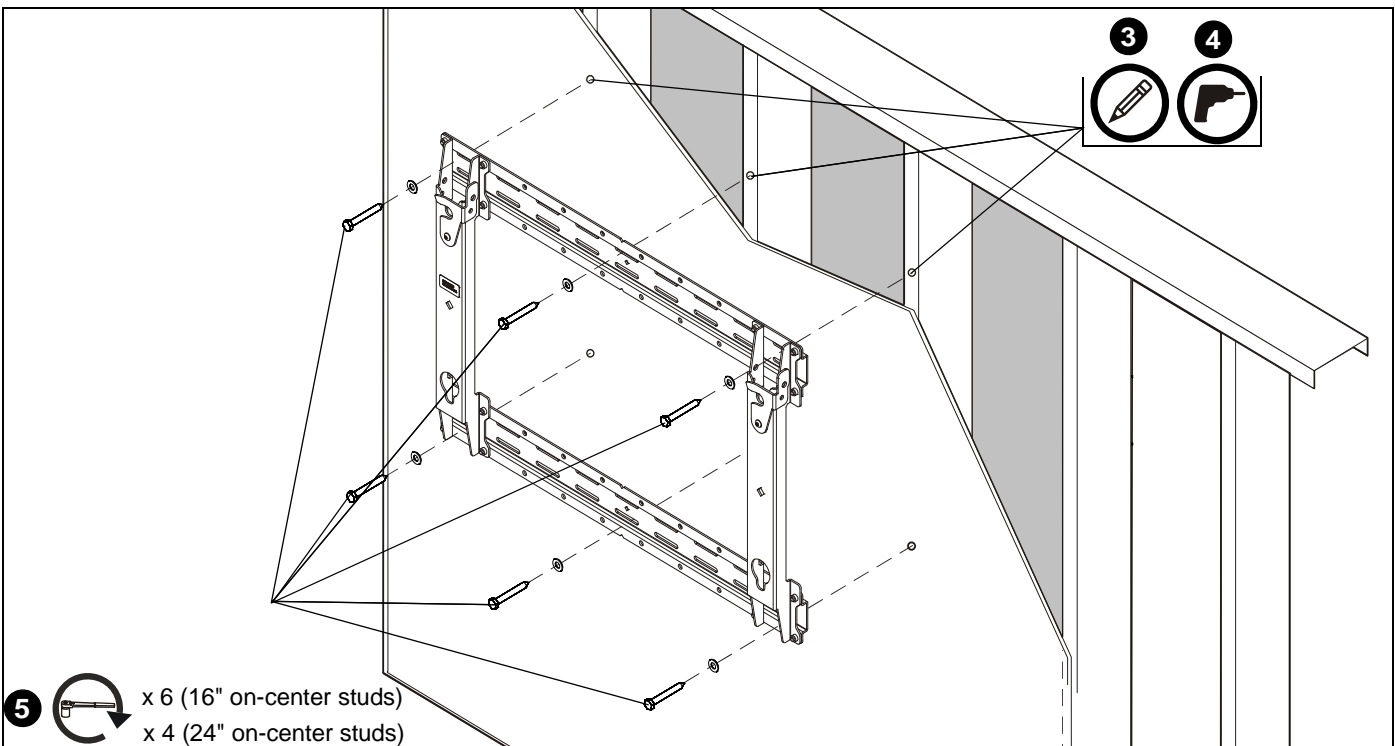

Figure 2
3. Using a pencil, or similar marking tool, mark the location of six mounting holes (or four mounting holes for 24" on-center studs) in horizontal brackets onto surface. (See Figure 2)
5. Secure mount to studs using six 5/16" x 2-1/2" lag screws (K) and six 5/16" (L) flat washers [or four lag screws and four washers for 24" on-center studs]. (See Figure 2)